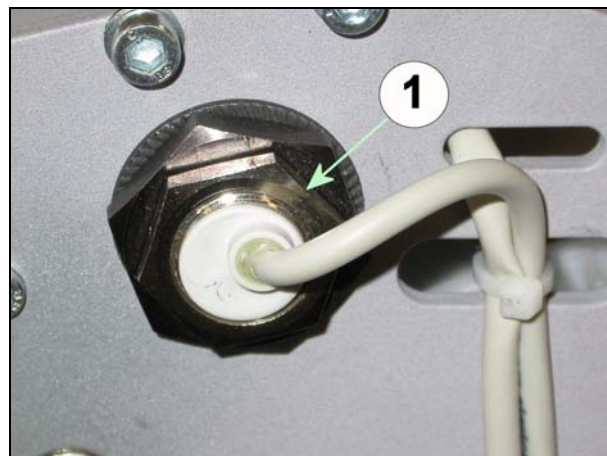

Fig. 8
- Loosen the counternut on the sensor (1/Fig. 8). The sensor can now be adjusted by turning it. Loosen any present cable ties.